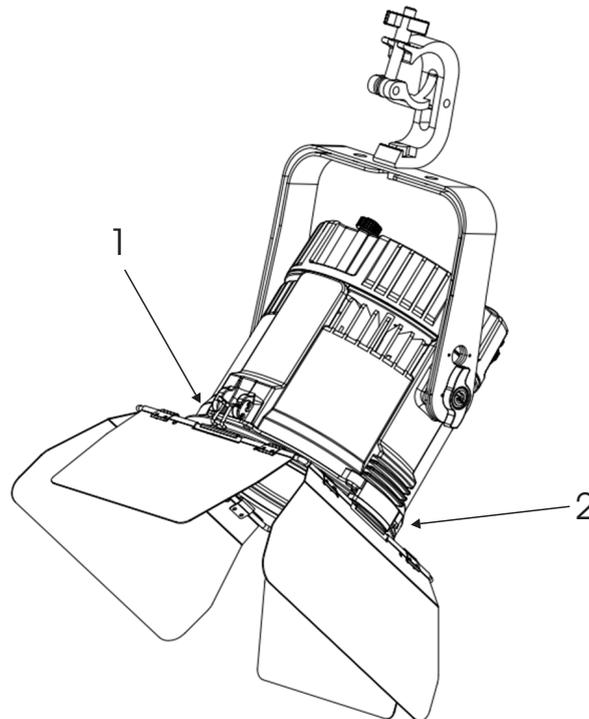

Figure 7. XPAR 12Z with Barndoors
1. See Figure 7. Pull back the spring clip (1) on the top of the fixture and slide the barndoor accessory into the channels (2) provided on the left, right and bottom of the fixture lens. Release the spring clip and ensure that all four sides of the barndoors are correctly held in place.
See Figure 7. You can select from four dimming curves using the **Fixture Settings → Dimmer Curve** option on the control panel: